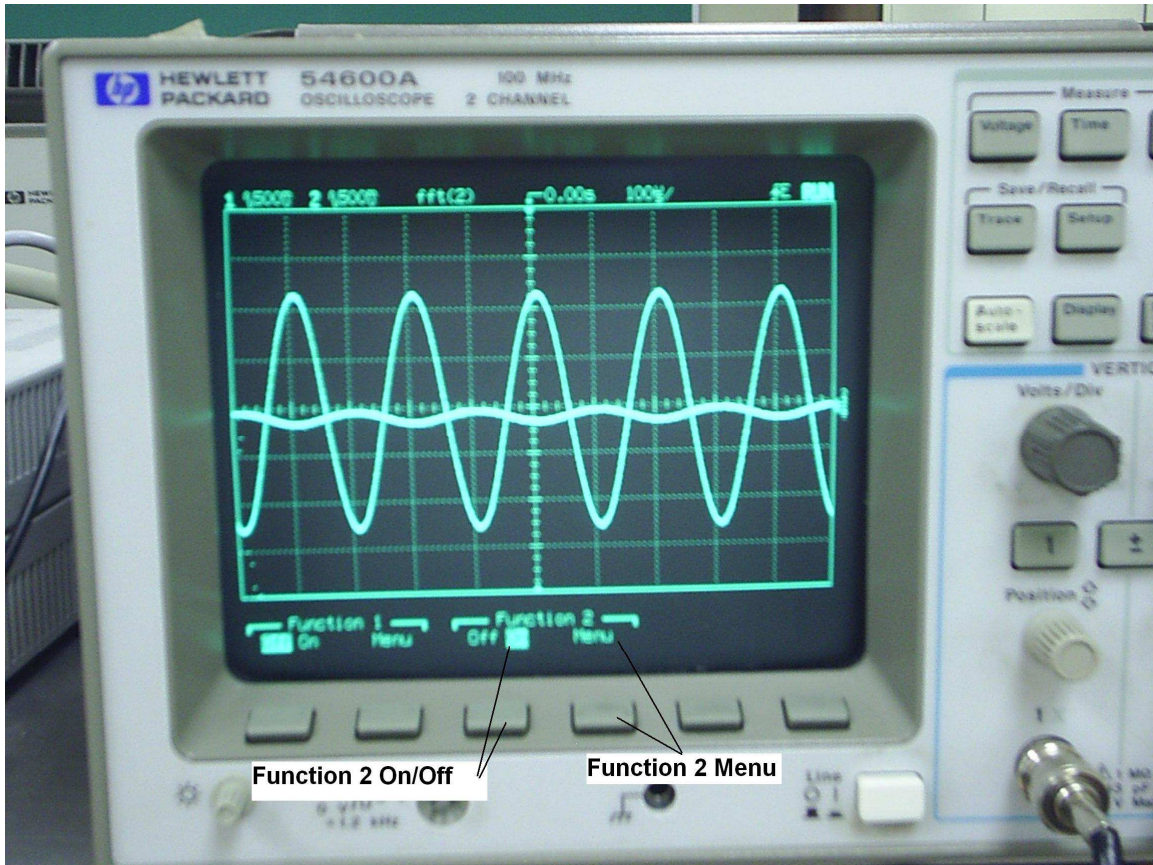

Figure 2.12: Setting the FFT function
3. Connect the function generator to the input of the circuit and set its frequency to the operating frequency (eg. 5 kHz) and the amplitude to the value calculated in the pre-lab for the given THD. Examine the transient waveform to verify the circuit is operating correctly. See figure 2.12 for a typical transient waveform.
5. In the options on the bottom of the screen, toggle Function 2 to “On”. Then under Function 2, select “Menu”. See figure 2.12.